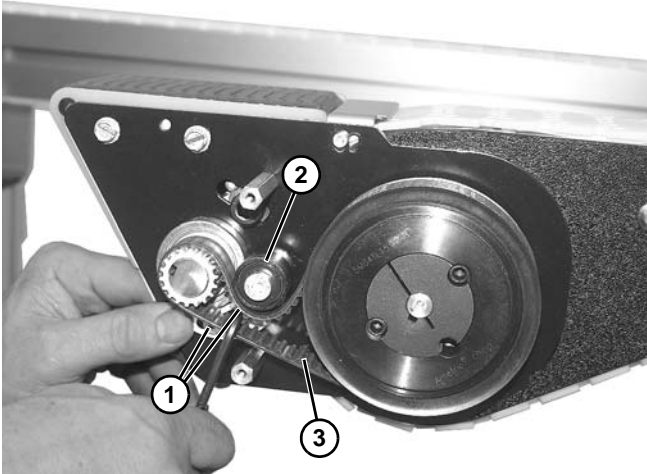

Figure 145
2. Loosen two socket head screws (Figure 145, item 1) holding tensioning pulley (Figure 145, item 2) onto timing belt (Figure 145, item 3).
3. Remove timing belt (Figure 145, item 3) from assembly.